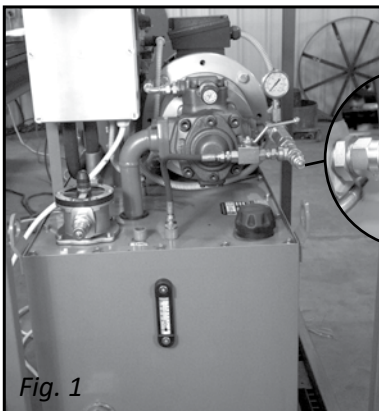

Fig. 1
1. Connect machine to hydraulic power supply (Fig. 1) with the capability of minimum pressure of 110 bars at 72 L/min. with 25 micron filter and air-cooled heat exchanger.